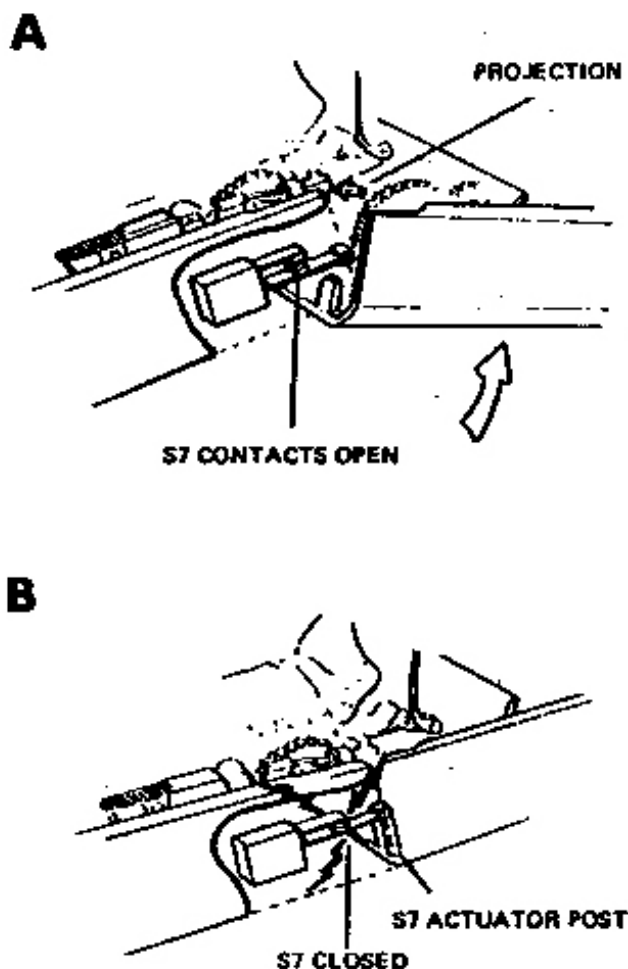

Figure 1-6 S7 contacts open and closed
- (1) A projection on the front cover latch (Figure 1-6 A), and
- (2) A post on the right rear edge of the front cover (Figure 1-6 B).